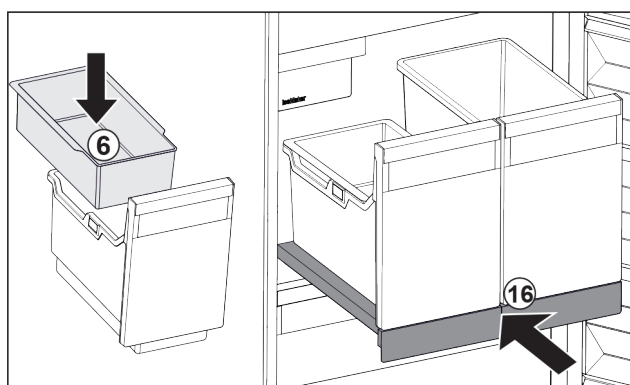

Fig. 107
- Insert hang-on tray Fig. 107 (6) for ice cubes.
- Slide in the pull-out board with (IceTower) container. Fig. 107 (16)